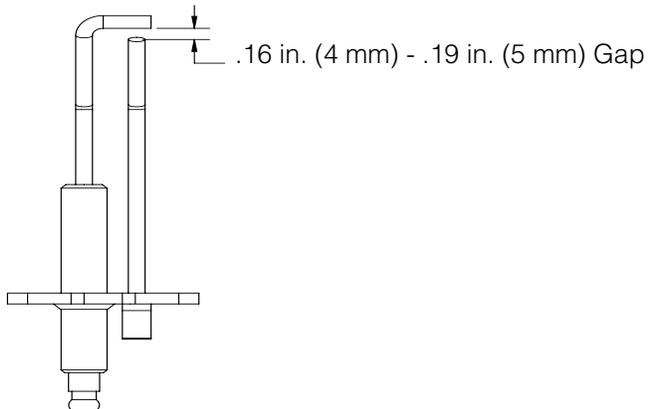

Figure 18-2: Ignitor/Flame Sensor Spark Gap
- C. Verify ignitor/flame sensor spark gap is within range shown in Figure 18-2.